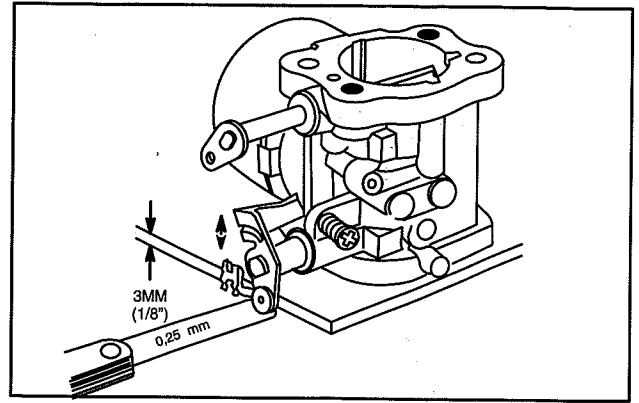

Fig. 15 – Check Clearance
1. Lay carburetor on flat surface and check throttle and choke shaft clearance as shown in Fig. 15. Throttle shaft and choke shaft clearance must not exceed .25 mm (.010").